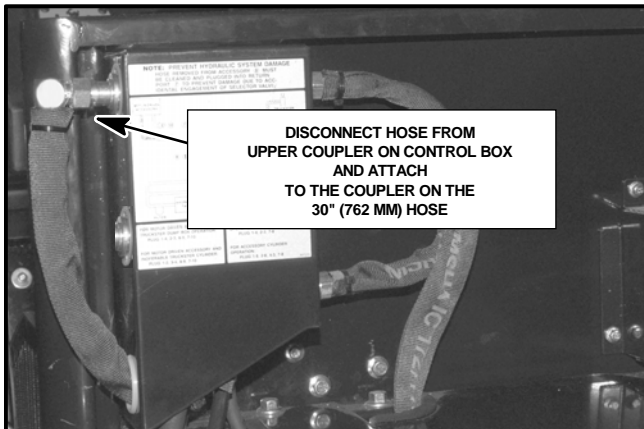

Figure 36
- Disconnect the hose from the upper coupler on the control box (See Fig. 36) and attach it to the coupler previously installed onto the 30" (762 mm) hose coming from the bottom port of the elevator motor.